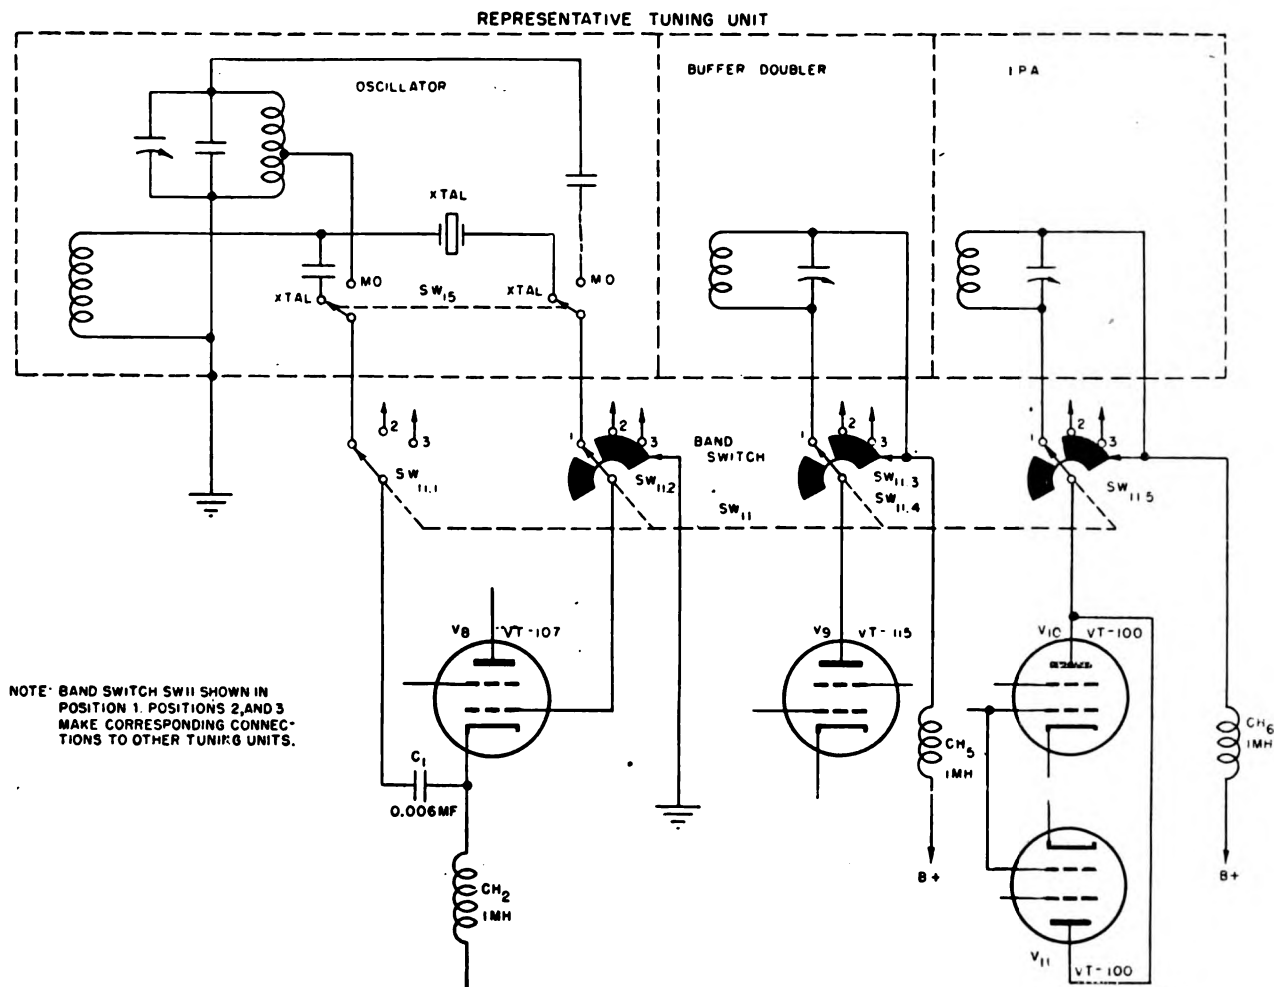

Figure 70. BAND SWITCH—functional diagram.
f. BAND SWITCH SW_{11} (fig. 70). Switch SW_{11} is a four-section, three-position switch, controlled from the front panel of the transmitter by a knob marked BAND SWITCH. Its purpose is to provide selection of any one of three tuning units which have been set to a predetermined frequency. The switch sections are numbered (on the functional schematic diagram) $SW_{11.1}$, $SW_{11.2}$, $SW_{11.3}$, and $SW_{11.4}$. Section 1 is the section nearest the front panel of the transmitter. Switches $SW_{11.1}$ and